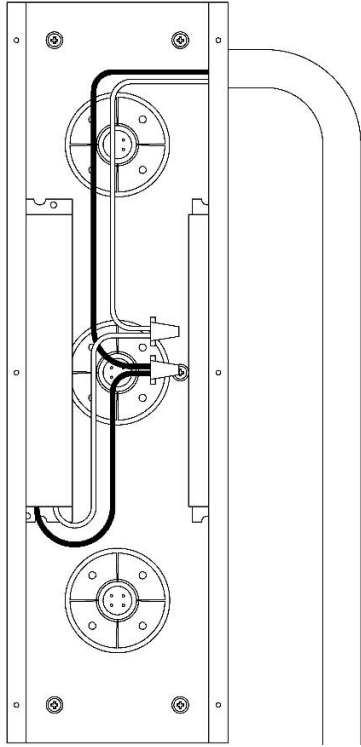

Figure 14
3.) Disconnect wire nuts powering catalyst panels. Remove conduit connectors from ballast tray. See Figure 14. Take note of where each wire is connected. They will need to be rewired in the same way once panel is put back into place.
13.) Using wire nuts and conduit connectors, wire catalyst panels in the same way they were originally wired. See Figure 14.
11.) Using wire nuts and conduit connectors, wire catalyst panels in the same way they were originally wired. See Figure 14.
- 3.) Disconnect wire nuts powering catalyst panels. Remove conduit connectors from ballast tray. See Figure 14. Take note of where each wire is connected. They will need to be rewired in the same way once panel is put back into place.
- 8.) Using wire nuts and conduit connectors, wire catalyst panels in the same way they were originally wired. See Figure 14.
8.) Using wire nuts and conduit connectors, wire catalyst panels in the same way they were originally wired. See Figure 14.